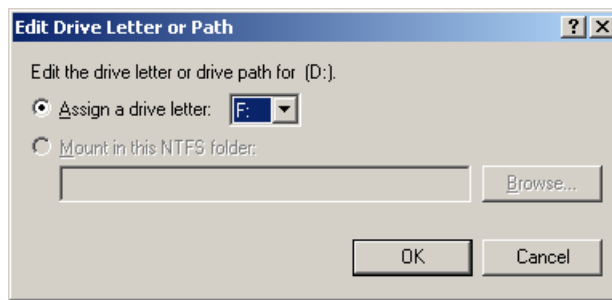

Figure 2-37 [Edit Drive Letter or Path] dialog box
- 3) Click <Edit...>. The [Edit Drive Letter or Path] dialog box is displayed. Assign "F:" to the CD-ROM drive. Click <OK>. See Figure 2-37.